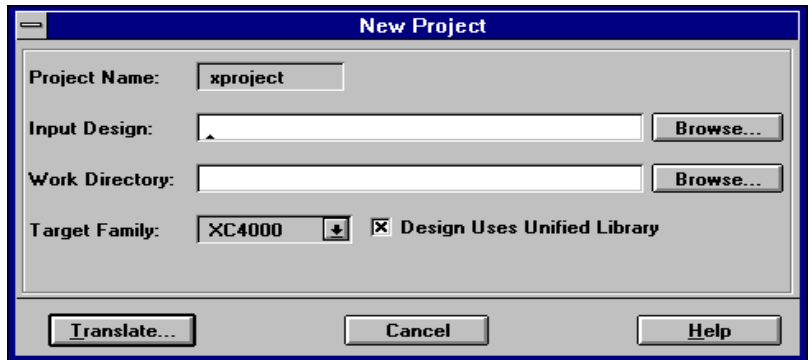

Figure 2-4 New Project Dialog Box (FPGA)
The New Project dialog box appears as shown in Figure 2-4.
3. Select the appropriate Target Family in the New Project dialog box (see Figure 2-4).